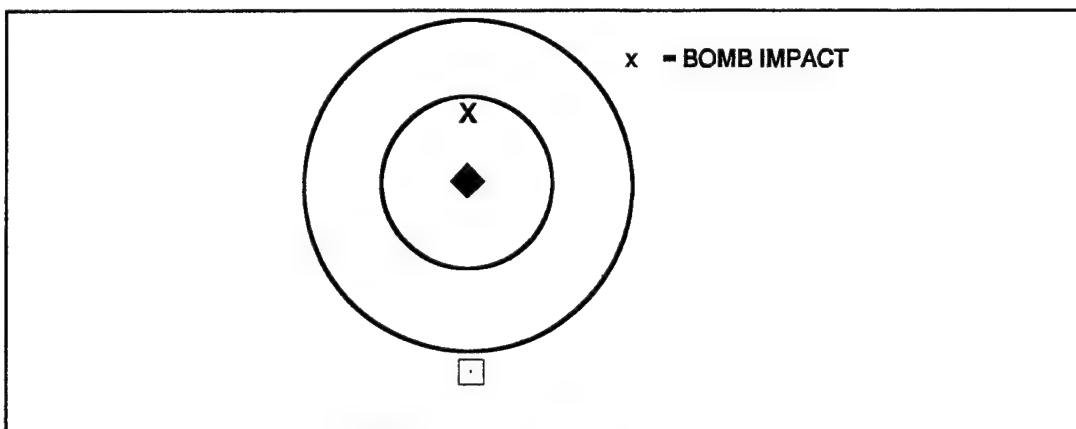

FIGURE 3.16 Error Analysis II
(2) Okay, that was easy. Now try this one. You aimed at the truck and the bomb impact was 60/12. The second pass shows the TD box 200/6 (Figure 3.16).